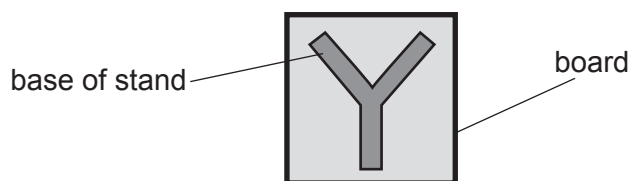

Fig. 1.1
- 1 If the base of the stand is triangular, then the base should be fixed to a small square wooden or plastic board with approximate thickness 1 cm, as shown in Fig. 1.1.